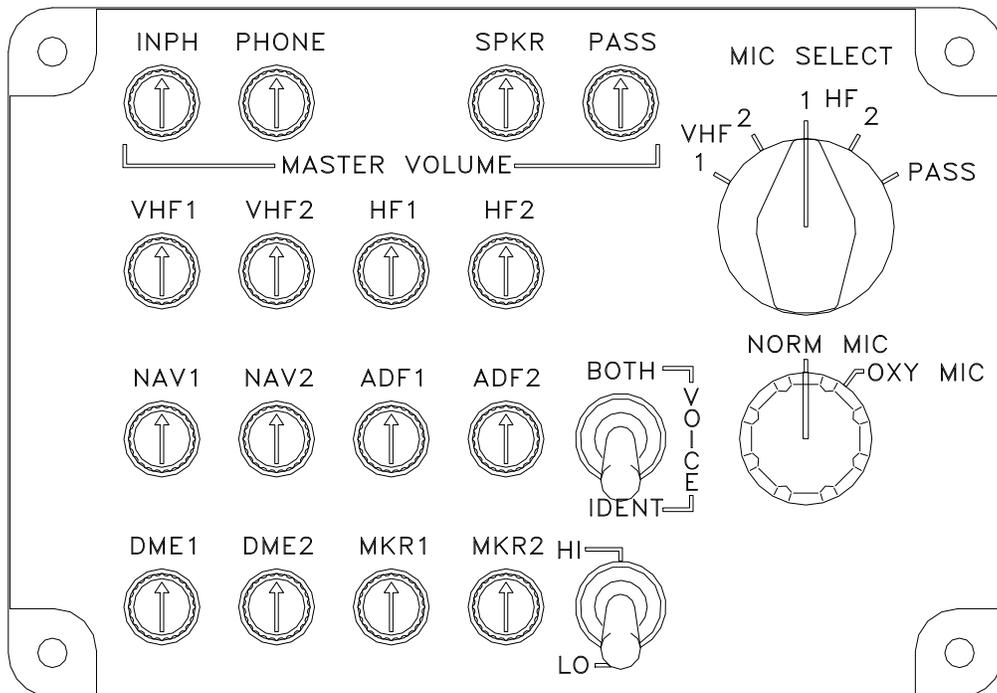

Figure 1: 802-009 Switch Panel
The 802-009 Switch Panel shown in Figure 1 is designed to control a single Model 700-xxx Digital Audio Control Amplifier. It also provides microphone audio switching and keying operations for four radio transmitters in addition to features such as antenna switching unit control, marker (MKR) receiver sensitivity control and public address (PA) amplifier control. The 802-009 Switch Panel continuously reads the status of its own audio control switches and volume control potentiometers and compiles this information into the form of a digital signal. The digital signal is sent to the Model 700 from the switch panel in RS422 serial format via a twisted, shielded wire pair. The Model 700 receives, demultiplexes and converts this digital signal into useful audio control information.